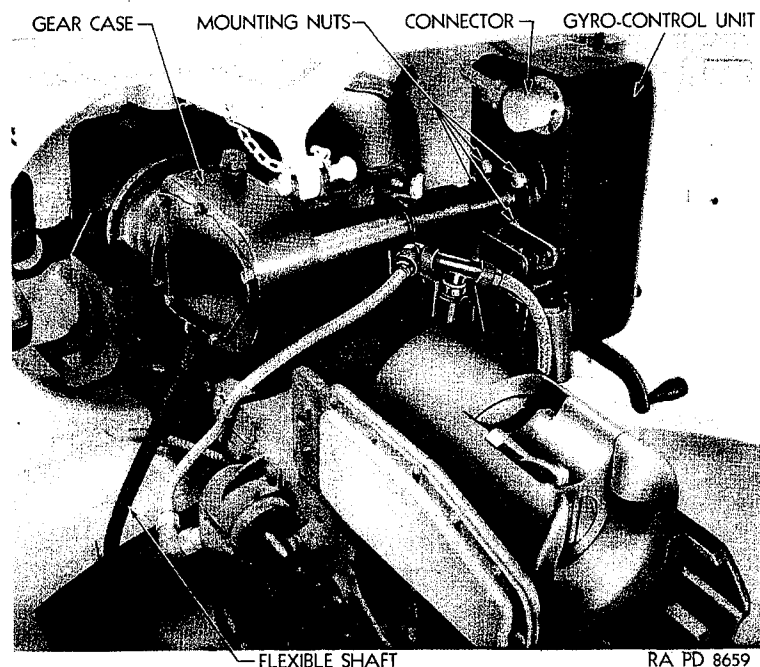

Figure 76—Control Unit and Connector, Gyro-Stabilizer
- (1) Throw the master switch to the "off" position to shut off the power to the stabilizer.
- (2) Disconnect and remove the multiple prong connector from the gyro-control base.
- (3) Remove the four nuts on the gyro-control mounting shaft, Figure 76, and remove the gyro-control unit.